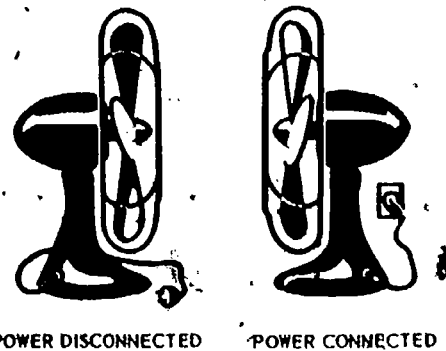

Fig 2-36. Principle of fluid drive.
- (1) **Clutch.** The first element in the power train is the clutch, located between the engine and the transmission. By means of the clutch, the operator can disconnect the engine from the remainder of the power train. This is necessary for starting the engine, for allowing the vehicle to stand still while the engine is running, for gradual engagement of the engine to the power train, and for permitting the operator to change transmission gear ratios to meet varying road conditions. Clutch operation and adjustment will be discussed in detail later in the chapter.
- (2) **Torque converters (fig 2-36).** Torque converters, a form of fluid coupling which takes the place of the clutch assembly, have come into wide use in conjunction with automatic transmissions. For some applications the torque converter is used with a clutch. The principle of fluid drive can best be illustrated through the use of electric fans which are facing each other. If power is connected to one fan, the air blast from this fan will cause the other fan to rotate until both are running at approximately the same speed. This same action takes place in fluid drive,